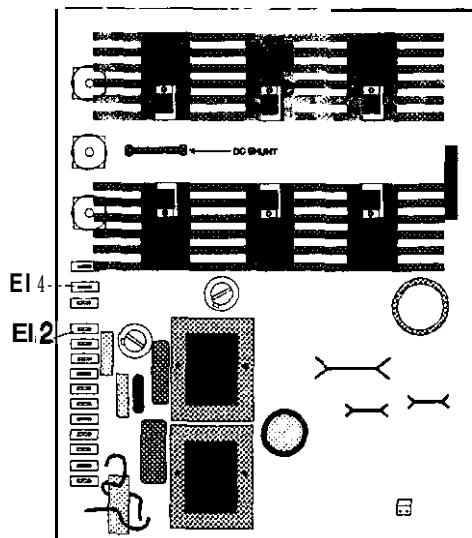

Figure 11
a.	Find E12 and E14 on the power board. (See Figure 11 on the next page.)